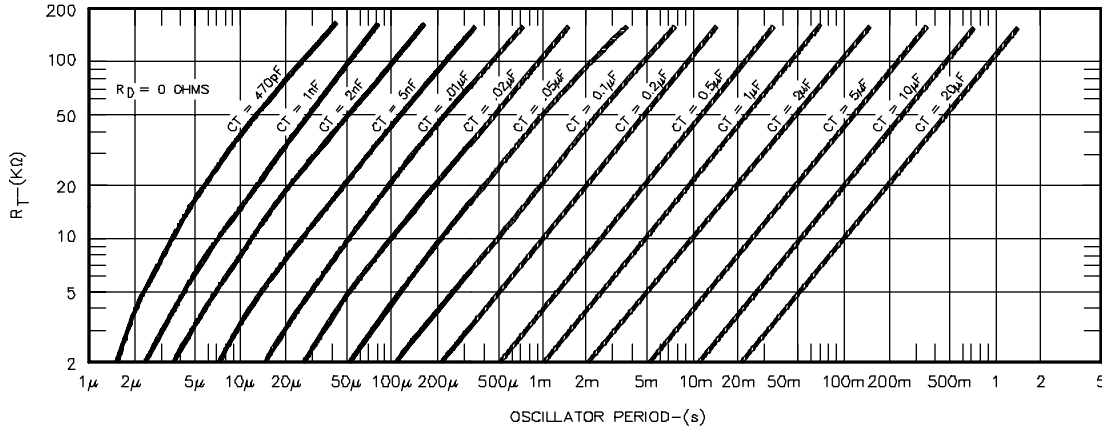

FIGURE 19. OSCILLATOR PERIOD VS. R_T AND C_T
1. With $R_D = 0\Omega$ (pin 11 shorted to ground) select values for R_T and C_T from Figure 19 to give the desired oscillator period. Remember that the frequency at each driver output is half the oscillator frequency, and the frequency at the $+V_C$ terminal is the same as the oscillator frequency.